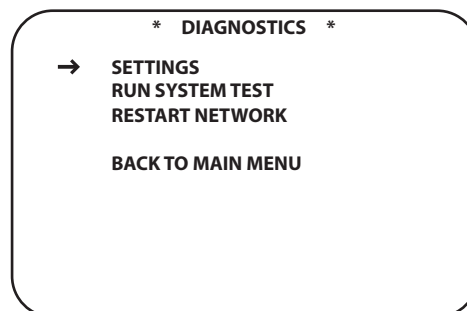

Figure 77.
5. Press the Set Button 18. The DIAGNOSTICS screen will appear (Figure 77).